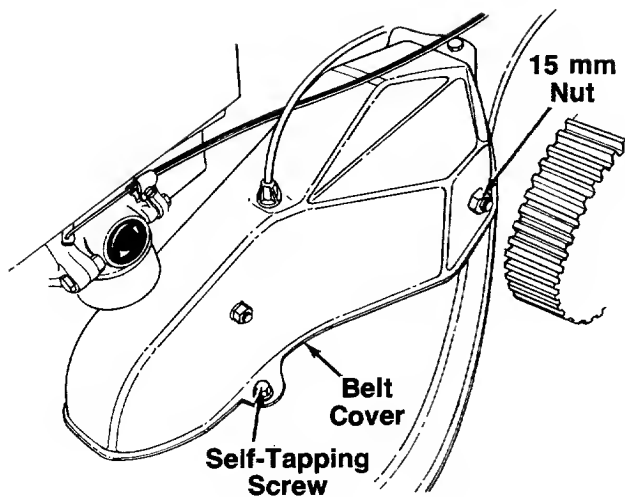

FIGURE 23.
4. Remove the 15 mm nut which holds the three speed hub to the belt guard. See figure 23.
5. Remove the three screws which hold the belt guard (and idler assembly). See figure 23.